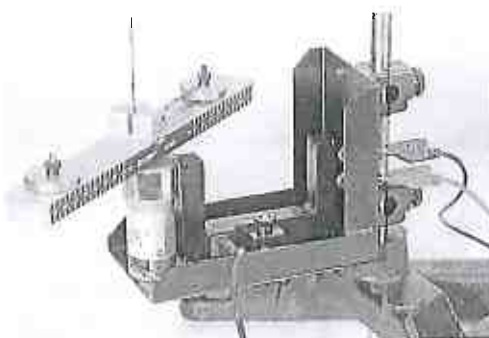

Figure 2: Photogate Attachment
1. Attach the Photogate to the frame of the Centripetal Force Apparatus as shown in Figure 2.